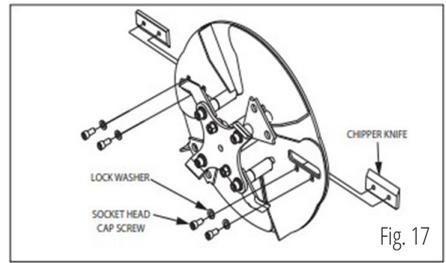

Fig. 17
4. Using a hex wrench, remove the two socket head cap screws and the chipper knife. SEE FIGURE 17